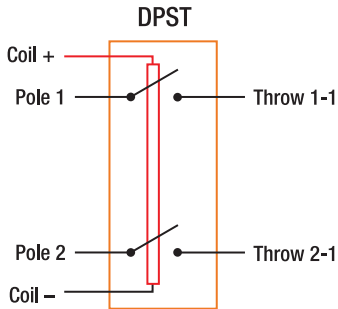

Figure 2-4. This DPST relay has two poles, and each pole has one contact (a double switch).
- **Double Pole, Single Throw (DPST):** This type of relay uses one coil to operate two independent SPST switches at the same time (see Figure 2-4). This relay has six total contacts and is useful for switching two loads at the same time—the two loads being switched can be associated (like a set of motor wires) or separate (like a dual-voltage power switch).